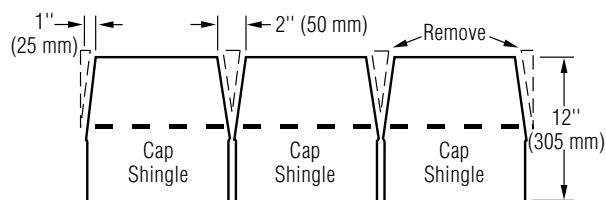

Figure 10-24: Cut tabs, then trim back to make cap shingles (English dimensions shown).
2. Make the caps by cutting full-length shingles at the tab cutouts. Trim the back end of the caps as shown in Figure 10-24.